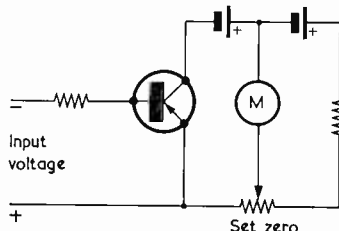

Fig. 1. A typical single-transistor voltmeter circuit
**M**ANY CIRCUITS HAVE APPEARED for single transistor voltmeters, a typical example appearing in Fig. 1. These all have two disadvantages in common: